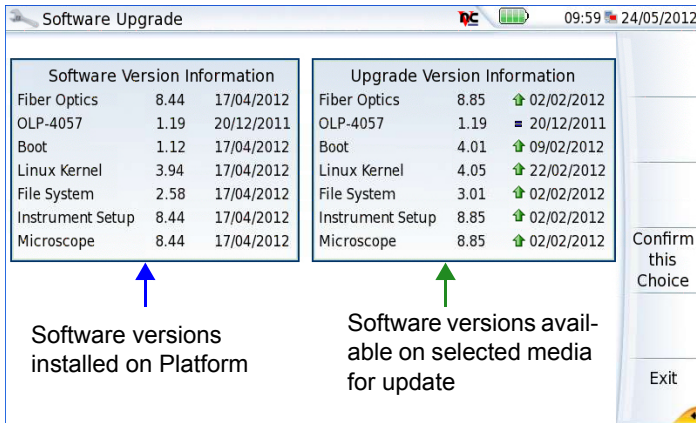

Figure 92 List of software versions (current and new)
The list of the software versions available on the PC is displayed next to the versions installed on the 2000 Platform (see Figure 92 on page 175).
The list of the software versions available on the USB stick is displayed next to the versions installed on the 2000 Platform (see Figure 92 on page 175).
Whatever is the method selected for upgrade (Server, USB key...) and once the list of the software versions available is displayed next to the versions installed on the 2000 Platform (see Figure 92 on page 175), follow these instructions to launch the upgrade:
- 4 Press **Ok** to display the list of software versions available (see Figure 92 on page 175) and follow instructions “Launching the upgrade” on page 178.